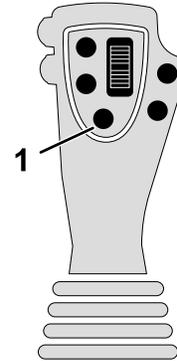
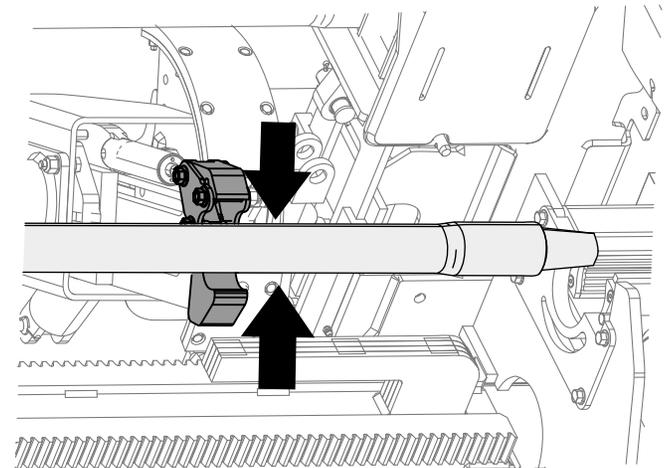

Figure 19
Figure 20
6. Hold the lower left button on the left joystick to grip the pipe (Figure 19 and Figure 20) and release the button.